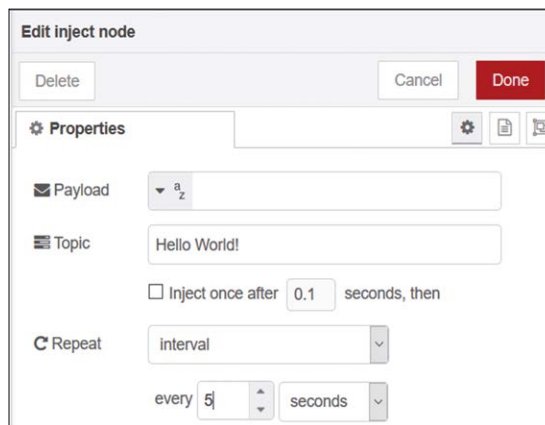

Figure 4.9 Set the repeat interval to 5 seconds
- Set the Repeat Interval to every 5 seconds (Figure 4.9) and click **Done**